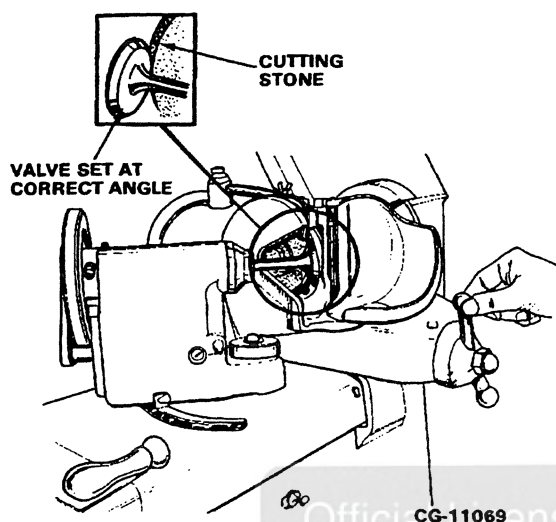

Figure 3.29. Grinding Valve Face Angle
- c. Remove only the minimum amount of material necessary to true up the valve face. Refer to Figure 3.29.